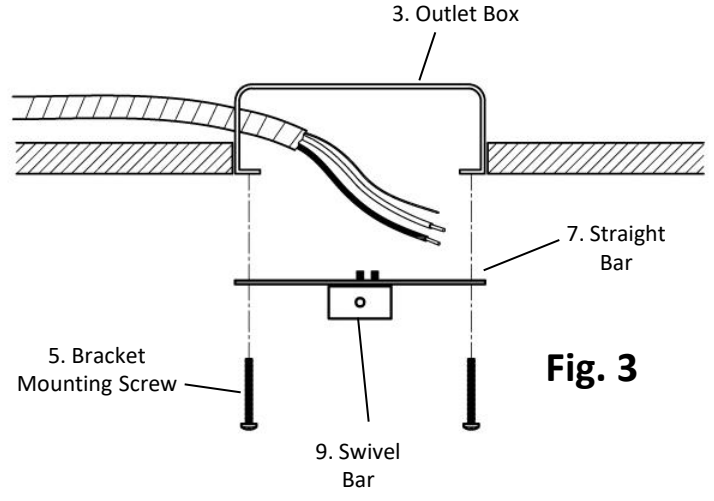

Fig. 3
2. Rotate the Swivel Bar (#9) of the Mounting Bracket (#4) so that it is perpendicular to the Straight Bar (#7). (Fig. 3)